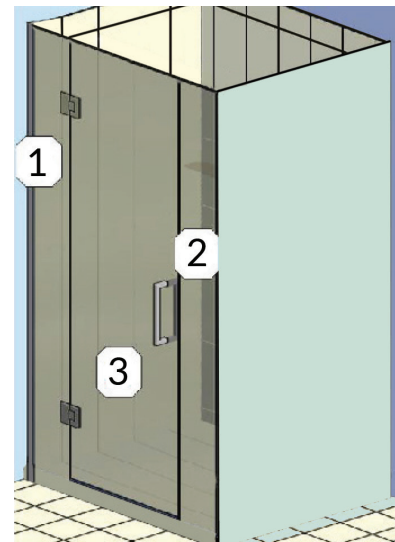

FIG 17.
- When panels are correctly aligned, remove panel 1 (FIG 17). and run a thick continuous line of silicone down the inside of the wall channel (FIG 18) and apply liberally in the wall to floor channel join and along the floor channel to the length of the glass panel.
- Repeat steps 8 and 9 with panel 2 (FIG 17).